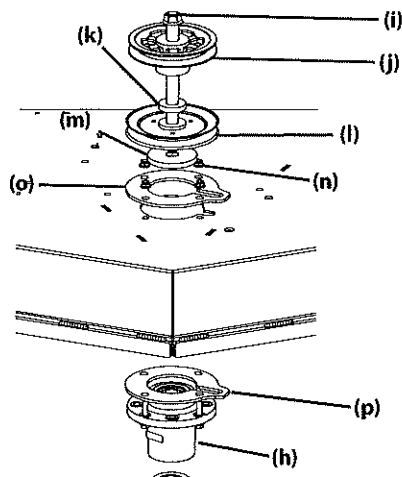

Figure 40
10. Remove the hex bolt (f), drive pulley (j), washer (k), spindle pulley (l) and spacer (m) from the front spindle assembly (h). See Figure 40.
11. Remove the four flange lock nuts securing the (n) upper support plate (o), lower support plate (p) and front spindle assembly (h) to the deck. See Figure 40.